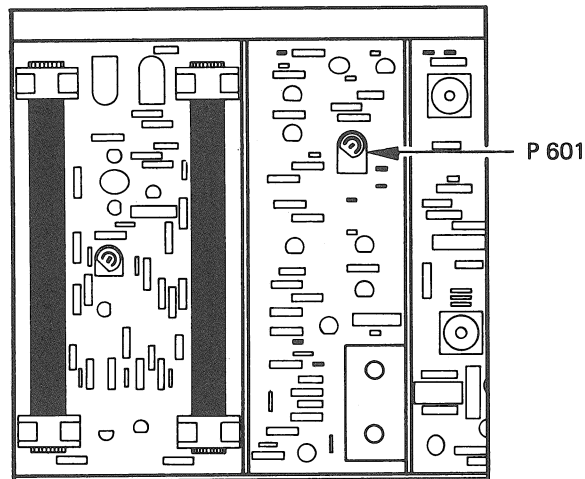

Fig. 4.13.-1
Adjust trim potentiometer P601 (see fig. 4.13.-1) until the light bulb MULTIPATH (42) becomes illuminated; then turn back P601 to the point where the light just goes off.